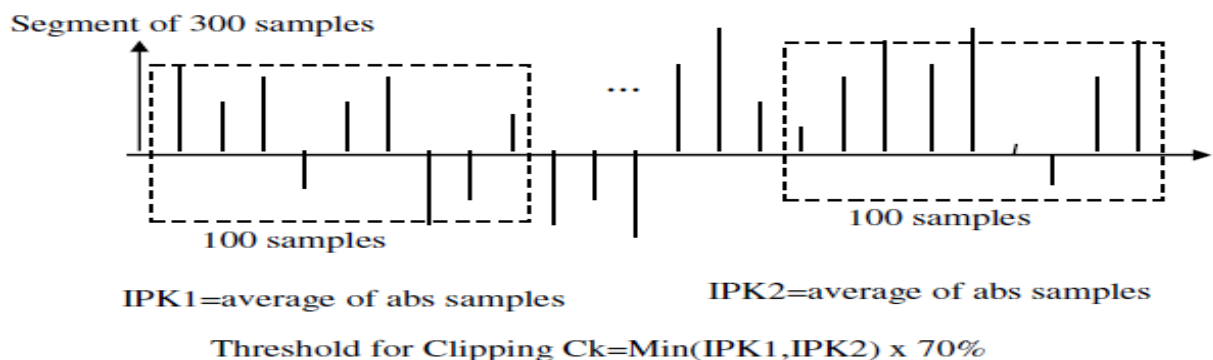

Fig. 8.17: Setting threshold for Clipping
- A threshold is set for three level clipping by computing minimum of average of absolute values of 1st 100 samples and last 100 samples. The scheme is shown in fig. 8.17.